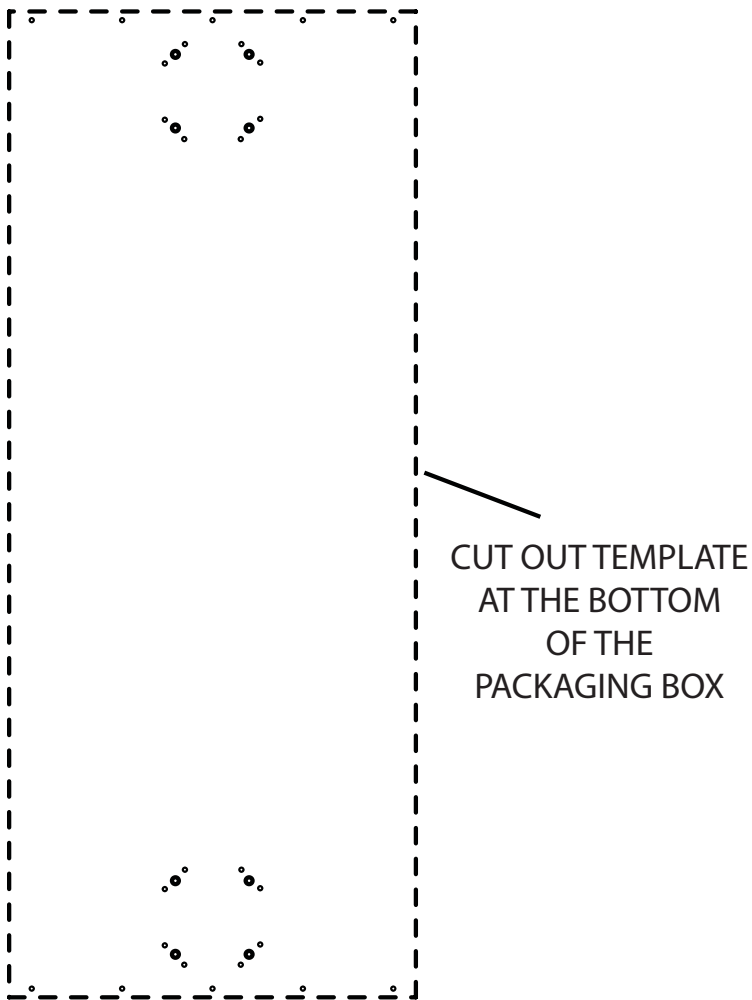
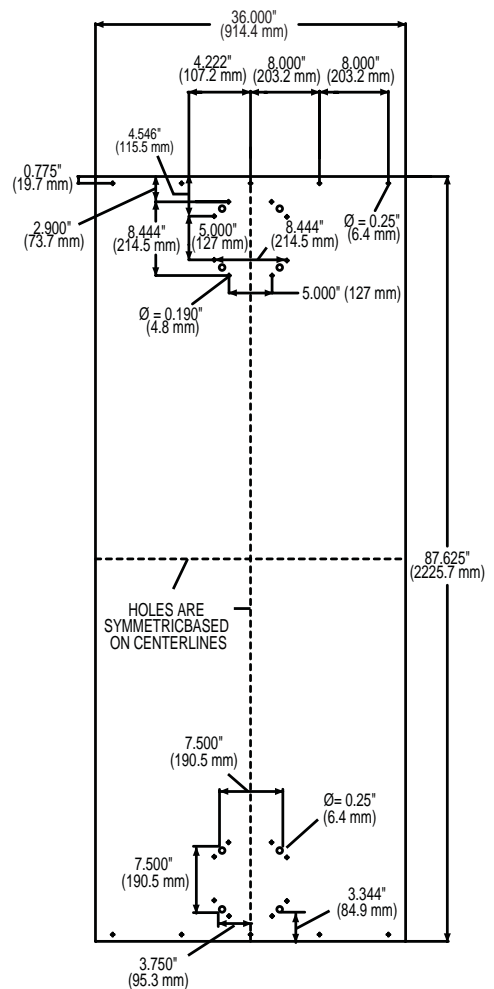

Figure 6. Cutting out the installation template from the packaging box.
Figure 7. Dimensions of the installation template.
- b. Using a utility knife cut out the installation template from the bottom of the packaging box as shown in Figure 6. Figure 7 shows the detailed dimensions for the installation template.